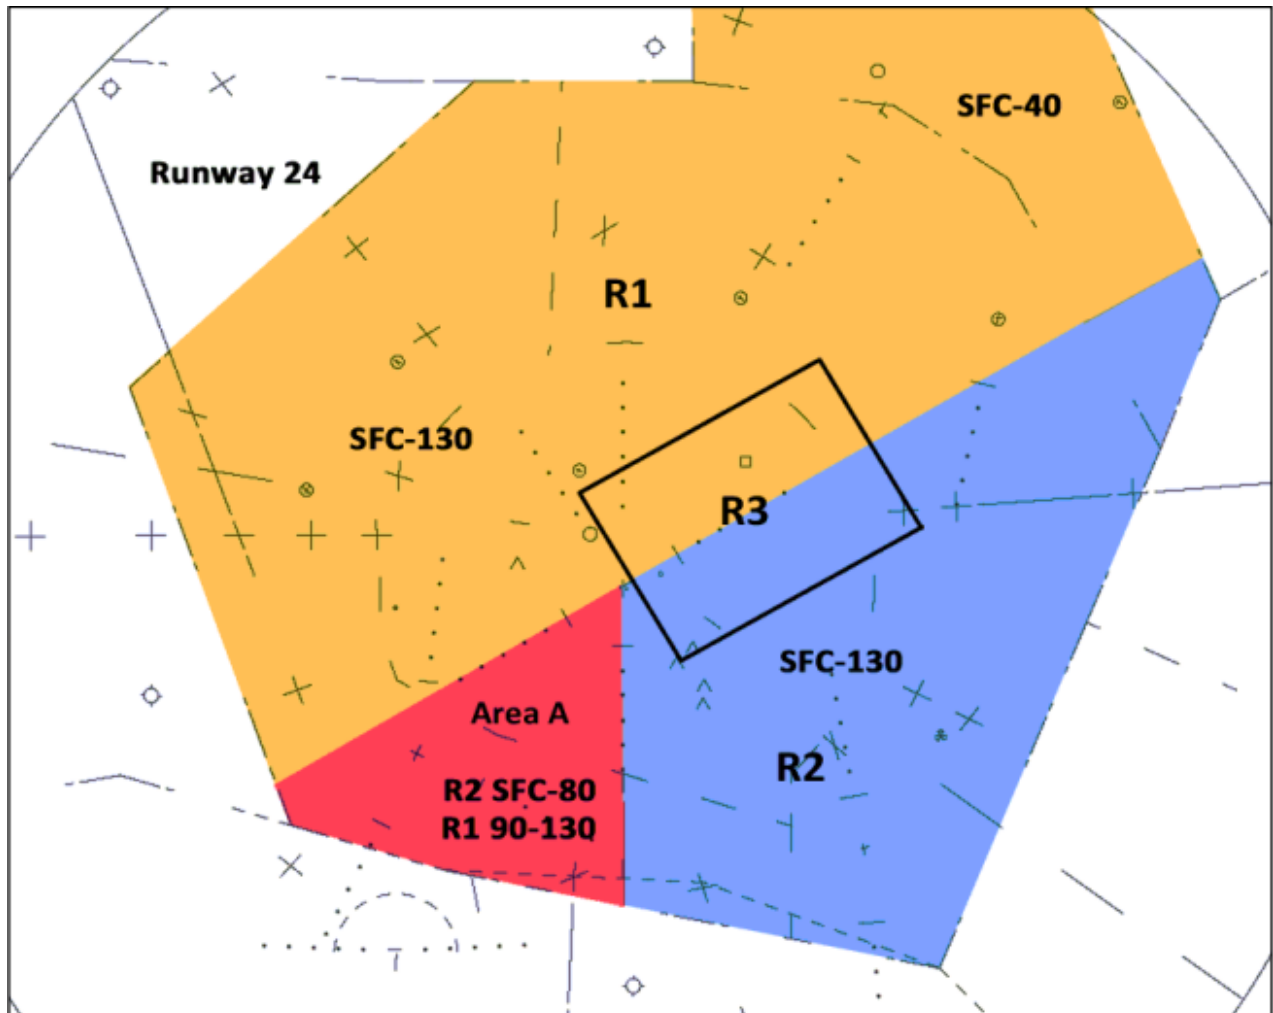

Figure J-1
- 1) R1 (G) – R1 is the north feeder position as depicted in figure J-1. The airspace extends from the surface to the upper limits of our approach airspace except in area “A”. In area “A” R1 is responsible for the airspace at and above 9000 MSL.
- 2) R2 (S) – R2 is the south feeder position as depicted in figure J-1. The airspace extends from the surface to 13000 MSL except in area “A”. In area “A” R2 is responsible for the airspace below 9000 MSL.
- 3) R3 (X) – R3 is the final position as depicted in figure J-1. The airspace extends laterally 7NM either side of the final approach course out to a 20 NM final. The airspace extends vertically from the surface to 6000 MSL.
- 1) Assign the correct departure frequency according to the aircraft's direction of departure. The frequency you assign will vary with the configuration. See Figures J-1 through J-3.